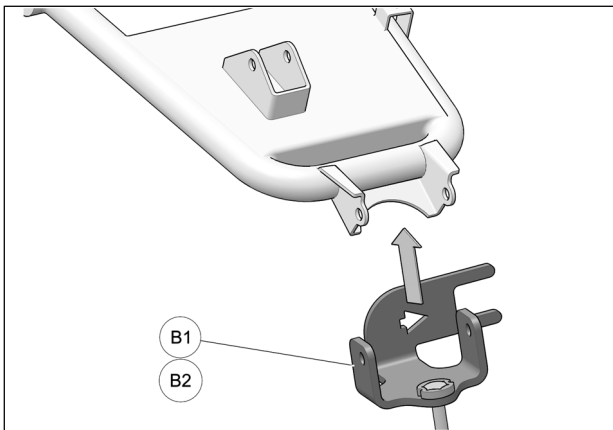

Fig. 6
- Install anchor bracket (B1-B2) on lower suspension arm and align anchor bracket bolt holes with suspension arm bolt holes. See Fig. 6